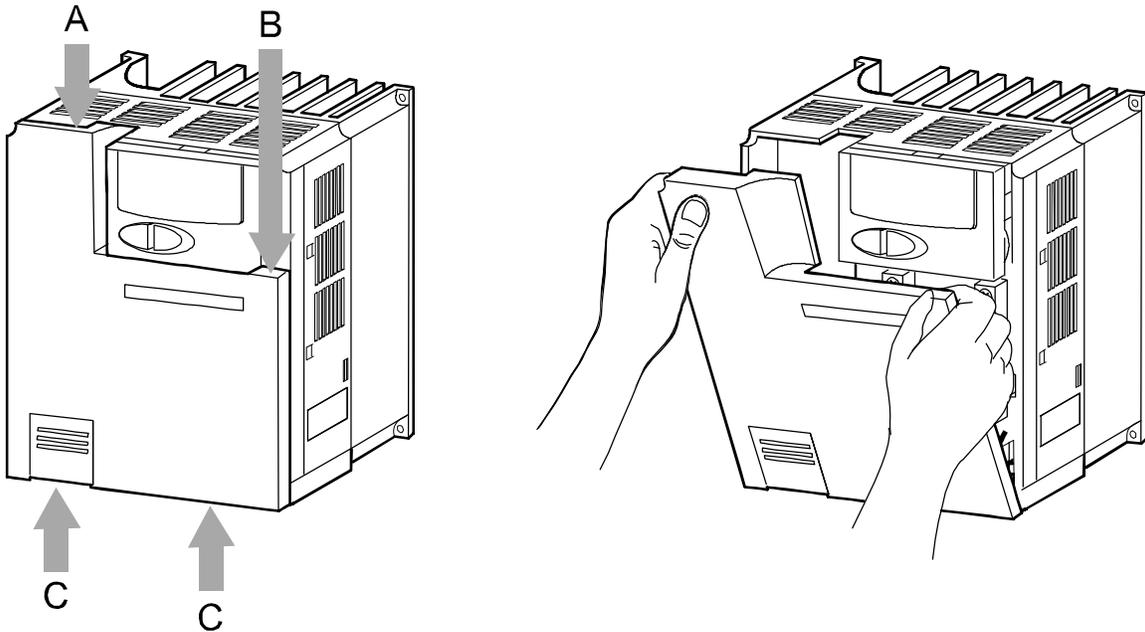

Figure 9: Release the Hooks and Remove the Front Cover
1. To remove the front cover, push down on the hooks at Position A and Position B and pull the front cover away from the VFD68 drive, using the hooks at Position C as supporting points (Figure 9).